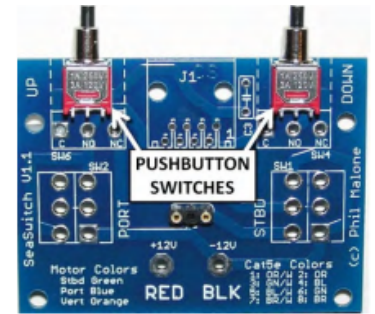

Figure 3.3-3: Pushbutton Switches Installed in the "SW3" and "SW5" Locations
3) Place the pins of the two pushbutton switches through the pads in the PCB at the locations labeled "SW3" and "SW5," as shown in Figure 3.3-3, after making sure that their pins are all straight (perpendicular to the switch body). [You may have larger switches than shown, which fit instead into the other set of three holes at the "SW4" and "SW6" locations.] While holding the switches in place with a piece of electrical tape, flip the PCB over and place it on a tabletop. Press down on the PCB to hold the switches flat against the board, and solder all connections on each switch.